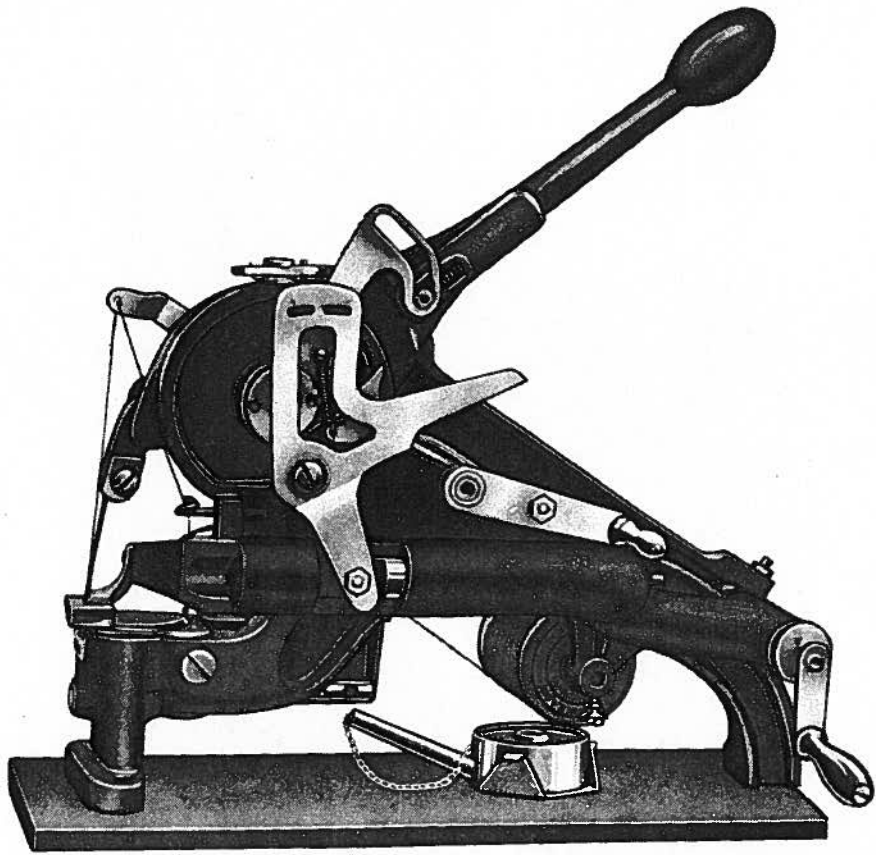

Fig. 4.
The presser foot lever (146) which, to conserve packing space, is put in the machine in reverse must be taken out and fitted on the machine, as shown on fig. 4.
The shuttle spool A, which can be wound by the little hand spool winder supplied with the machine (Fig. 4) or with any sewing machine, is put in shuttle B as shown in Fig. 7 A. Here again it is important that you note the direction of the thread.
After inserting the shuttle turn the stitching plate (57) (Fig. 4) back into position and tighten it in position with the milled edge screw No. 7 placed at the side of the machine.